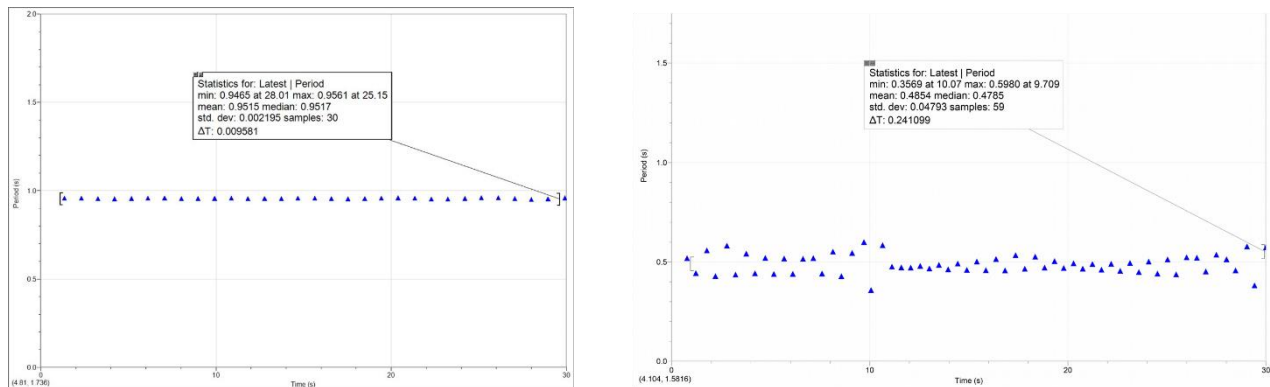

Figure 9 – Good (left) and Bad (right) data for period collection.
- If the data looks "Good" you can move to the next step, if not then repeat until it looks "Good". See Figure 9 for an example of good and bad data.